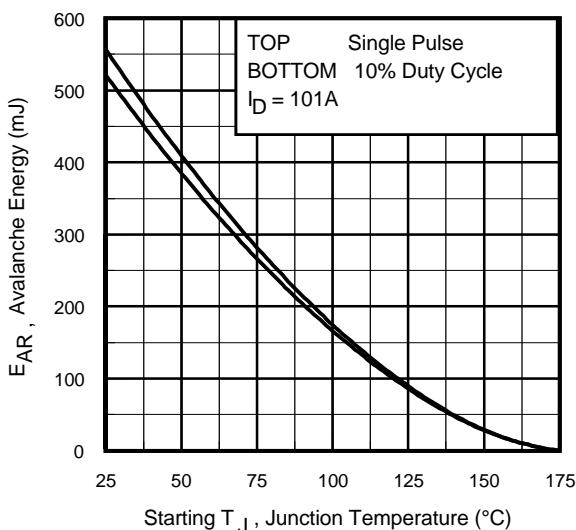

**Fig 11.** Maximum Effective Transient Thermal Impedance, Junction-to-Case
- ① Repetitive rating; pulse width limited by max. junction temperature. (See fig. 11).
- ② Starting  $T_J = 25^\circ\text{C}, L = 0.11\text{mH}$
$Z_{thJC}(D, t_{av})$  = Transient thermal resistance, see figure 11)